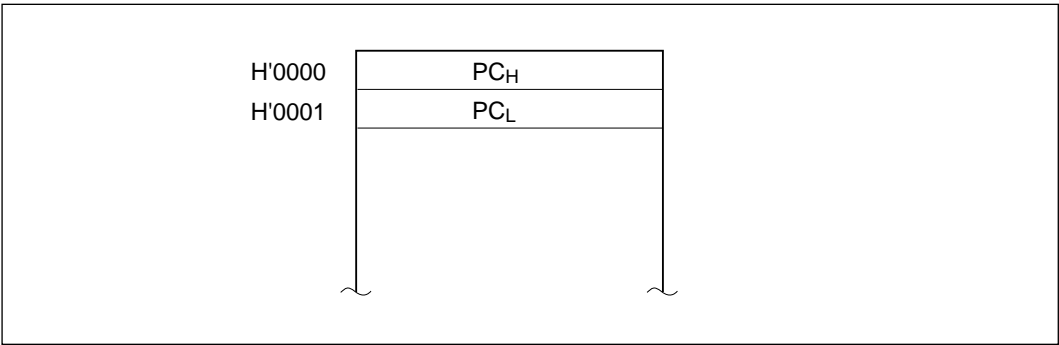

Figure 4-4 Reset Vector in Minimum Mode
(1) Minimum Mode: Figure 4-4 shows the reset vector in minimum mode.